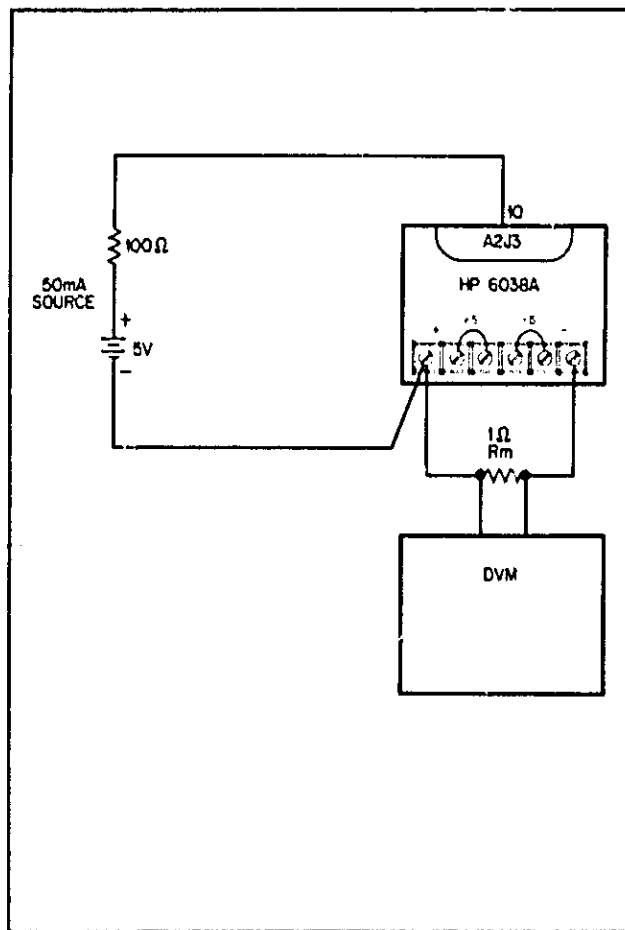

Figure 5-3. CC Zero Calibration Setup
- a. Connect the test setup shown in Figure 5-3.